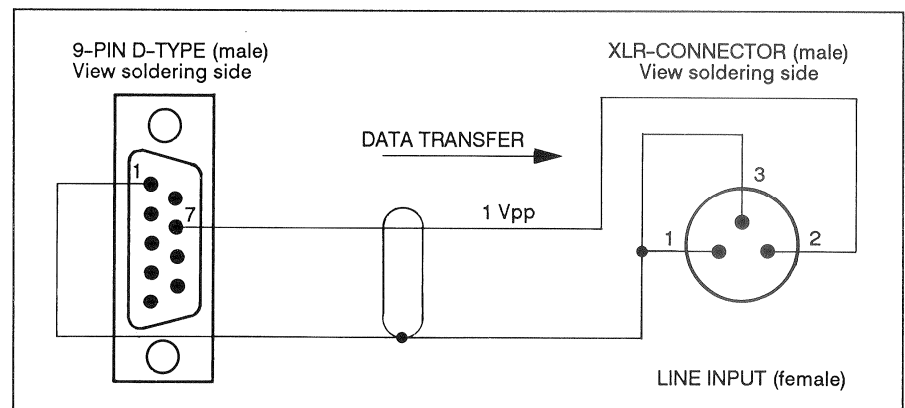

Fig. 1.11.1 Adapter cable for 1.820.718
- Connect one of the line inputs of a tape recorder to the 9-pin D-type connector (pin 7, ground pin 1) of the COMMUNICATION CONTROLLER PCB 1.820.718 (see Fig. 1.11.1).